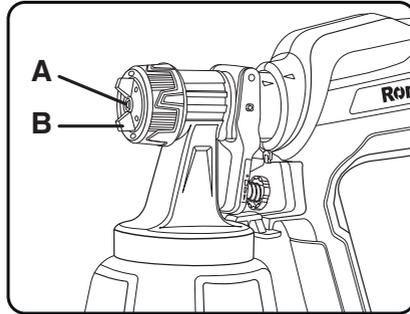

Fig.8
- When coating material builds up on the nozzle (Fig.8A) and air cap (Fig.8 B). clean both parts with a solvent or water.